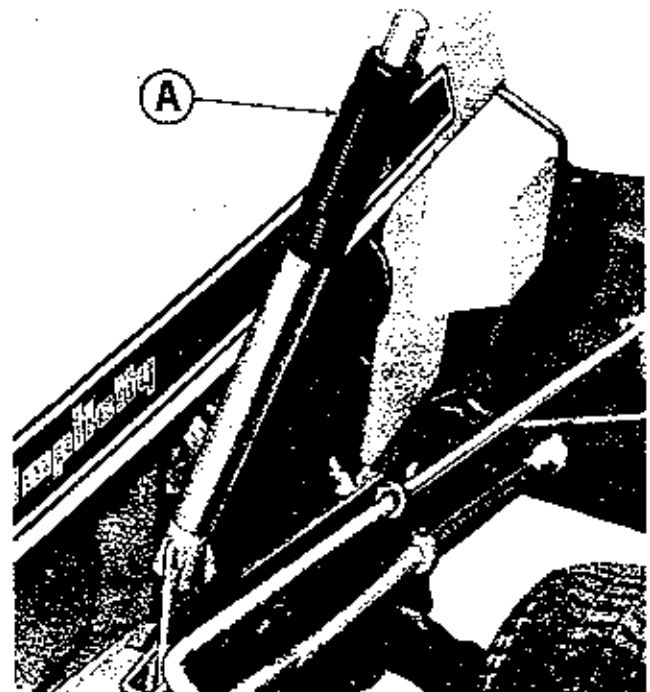

Figure 4. Dual lift lever.
**DUAL LIFT LEVER: (OPTIONAL)** (Figure 4, item A) The dual lift lever provides a convenient means of operating a front mounted attachment such as a snow